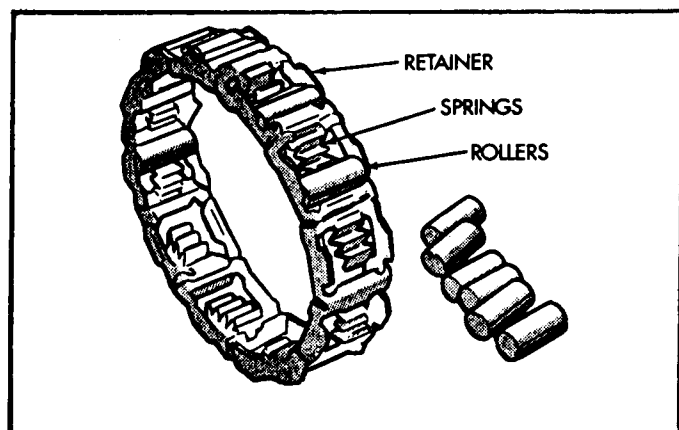

Figure 32
7. Install the rollers into overrun clutch cage, as shown in Figure 32.